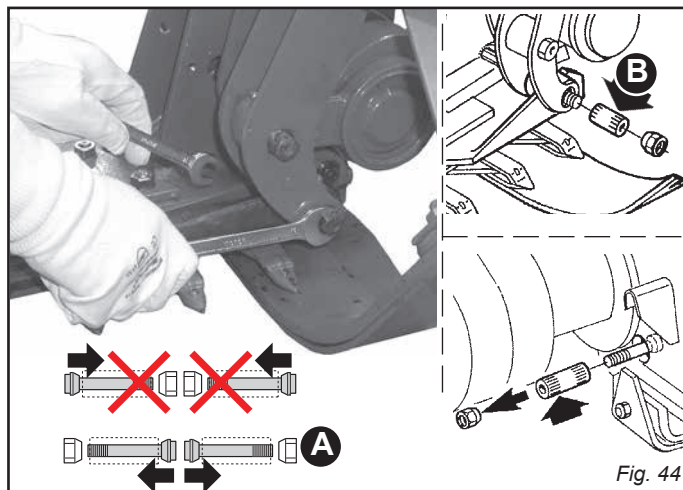
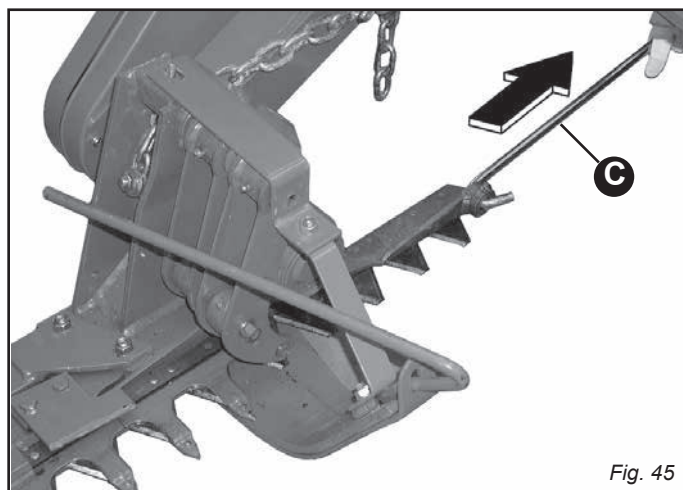

Fig. 44
Fig. 45
The expansion pins must be reassembled as shown in Figure 44 (A), by tightening the screw and the conical nut with a torque not exceeding 30 Nm.
- Remove the expansion pin (B, Fig. 44) and pull out the section-holding bar (Fig. 45) with the hooking tie rod (C, Fig. 45).
- Remove the expansion pin (B, Fig. 44) and slide out the section-holding bar (Fig. 45).
- Remove the expansion pin (B, Fig. 44) and slide out the tooth-holding bar (Fig. 45).